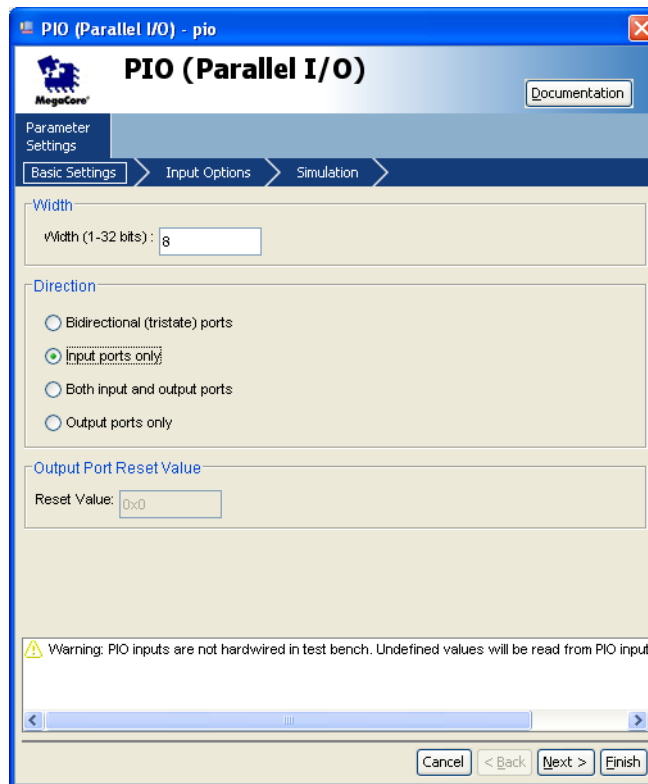

Figure 10. Define a parallel input interface.
- Select **Peripherals > Microcontroller Peripherals > PIO (Parallel I/O)** and click **Add** to reach the PIO Configuration Wizard in Figure 10